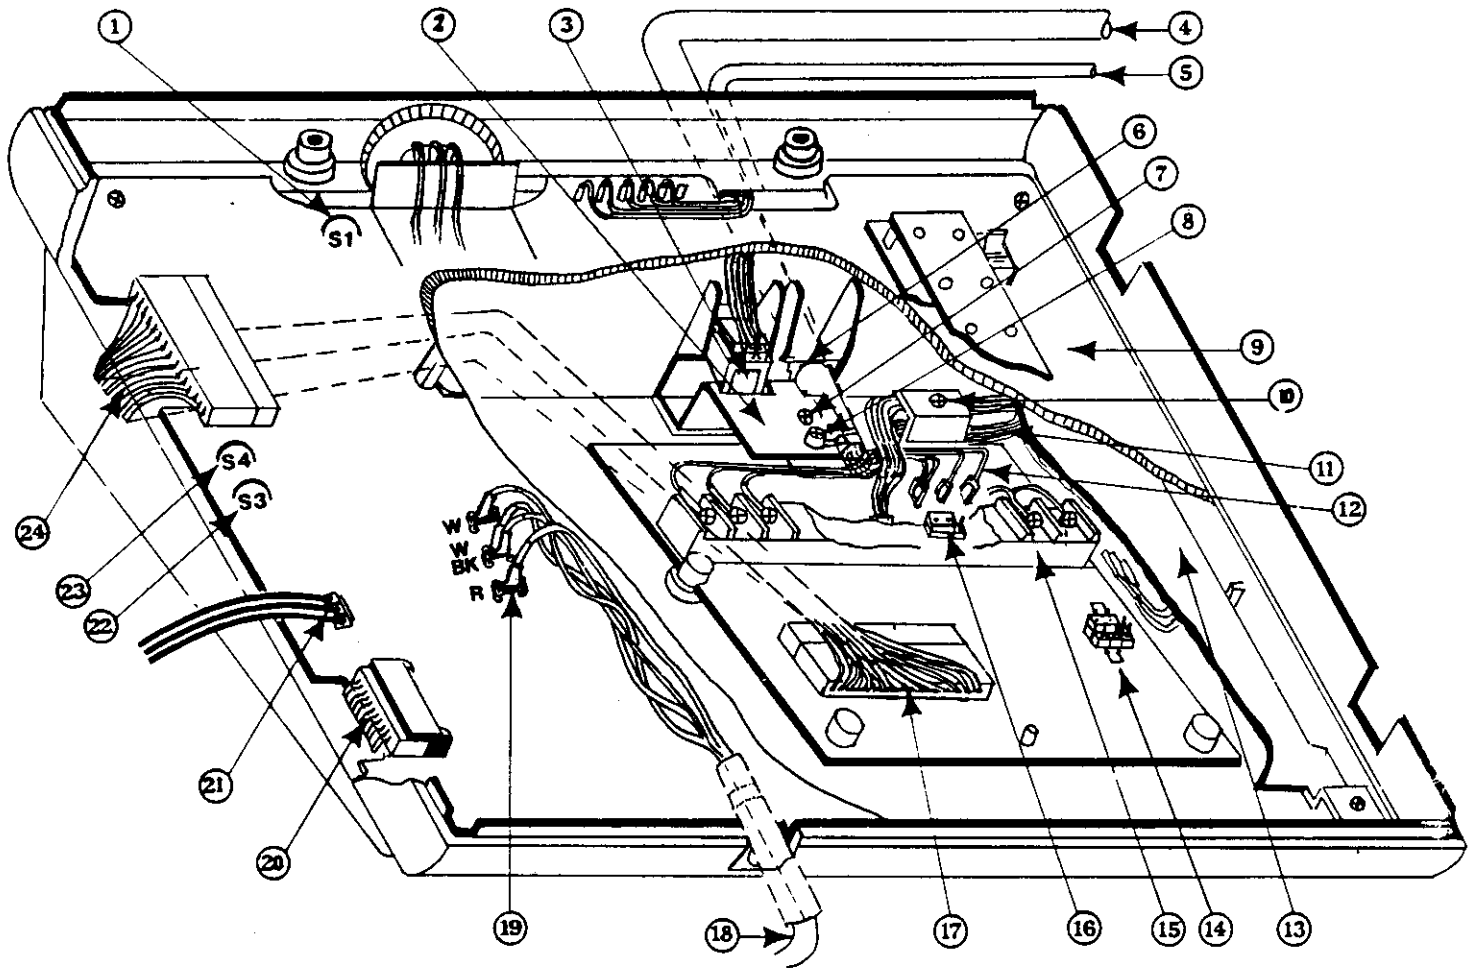

FIGURE 3 — CUT AWAY VIEW OF EKT WITH EHIU PCB INSTALLED
5.10 Re-connect the handset spade-tips (connector color codes are printed beside the terminals). See **Figure 3**.
5.11 Re-connect the built-in speaker to the P2 connector, located above the P1 CONNECTOR. See **Figure 3**.
2.1.5 Disconnect the speaker cable from the P2 connector on the EKT PCB. See Figure 3.
2.1.6 Disconnect the handset cord spade-tips from the EKT PCB (see Figure 3) and remove the handset cord from the EKT case.
NOTE: If an EHFU PCB has been installed in the EKT, its connecting cable must be disconnected from the P1 connector. See Figure 3.
2.1.8 Refer to Figure 3. Lift the rear edge of the EKT PCB and the metal shielding plate about 3 inches. Locate the modular jack for the line cord plug and its metal retaining bracket in the rear wall of the EKT base and unscrew the metal retaining bracket anchoring screw.
2.2 Place the EHIU PCB in the EKT base as shown in Figure 3, aligning the hole in the EHIU metal retaining bracket with the screw hole in post #3 located in the right rear corner of the EKT base. The front edge of the EHIU PCB should rest flush with the bottom of the EKT case. Use the 3 x 10 self-tapping screw supplied with the EHIU kit to secure the EHIU to support post #3.
2.3 Identify the male EHIU cable connector SPF/P3 on the upper left-hand corner of the EKT PCB. See Figure 3.
3.1.1 Feed the sixteen wire cable into the EKT through the exit port in the rear wall of the EKT case. See **Figure 3**.